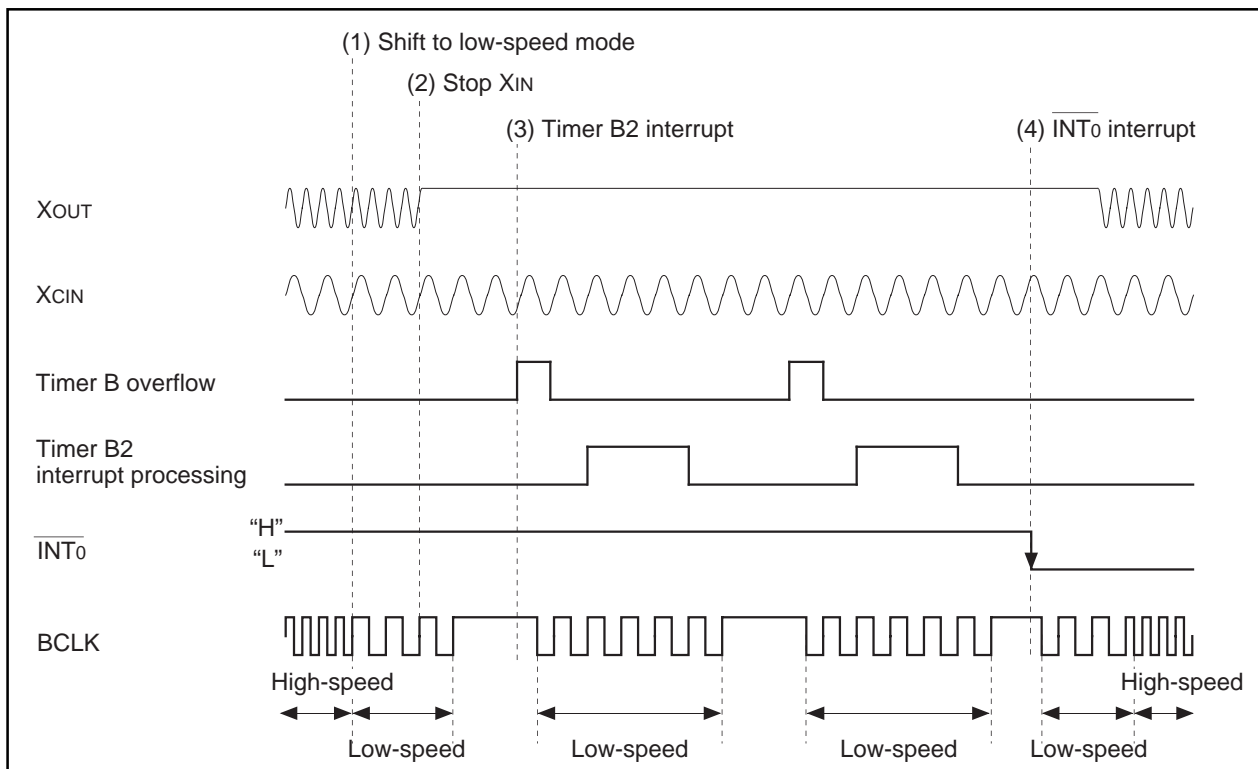

Figure 3.8.1. Operation timing of controlling power using wait mode
**Overview** The following are steps for controlling power using wait mode. Figure 3.8.1 shows the operation timing, and Figures 3.8.2 to 3.8.4 show the set-up procedure.